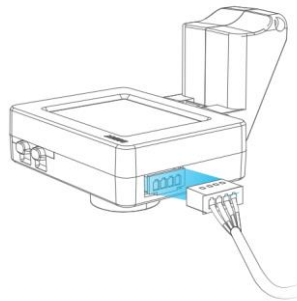

Figure 3.9 Wiring
Step 4 Connect Magician Go and AI camera using the 4Pin data cable of AI camera, as shown in Figure 3.9.